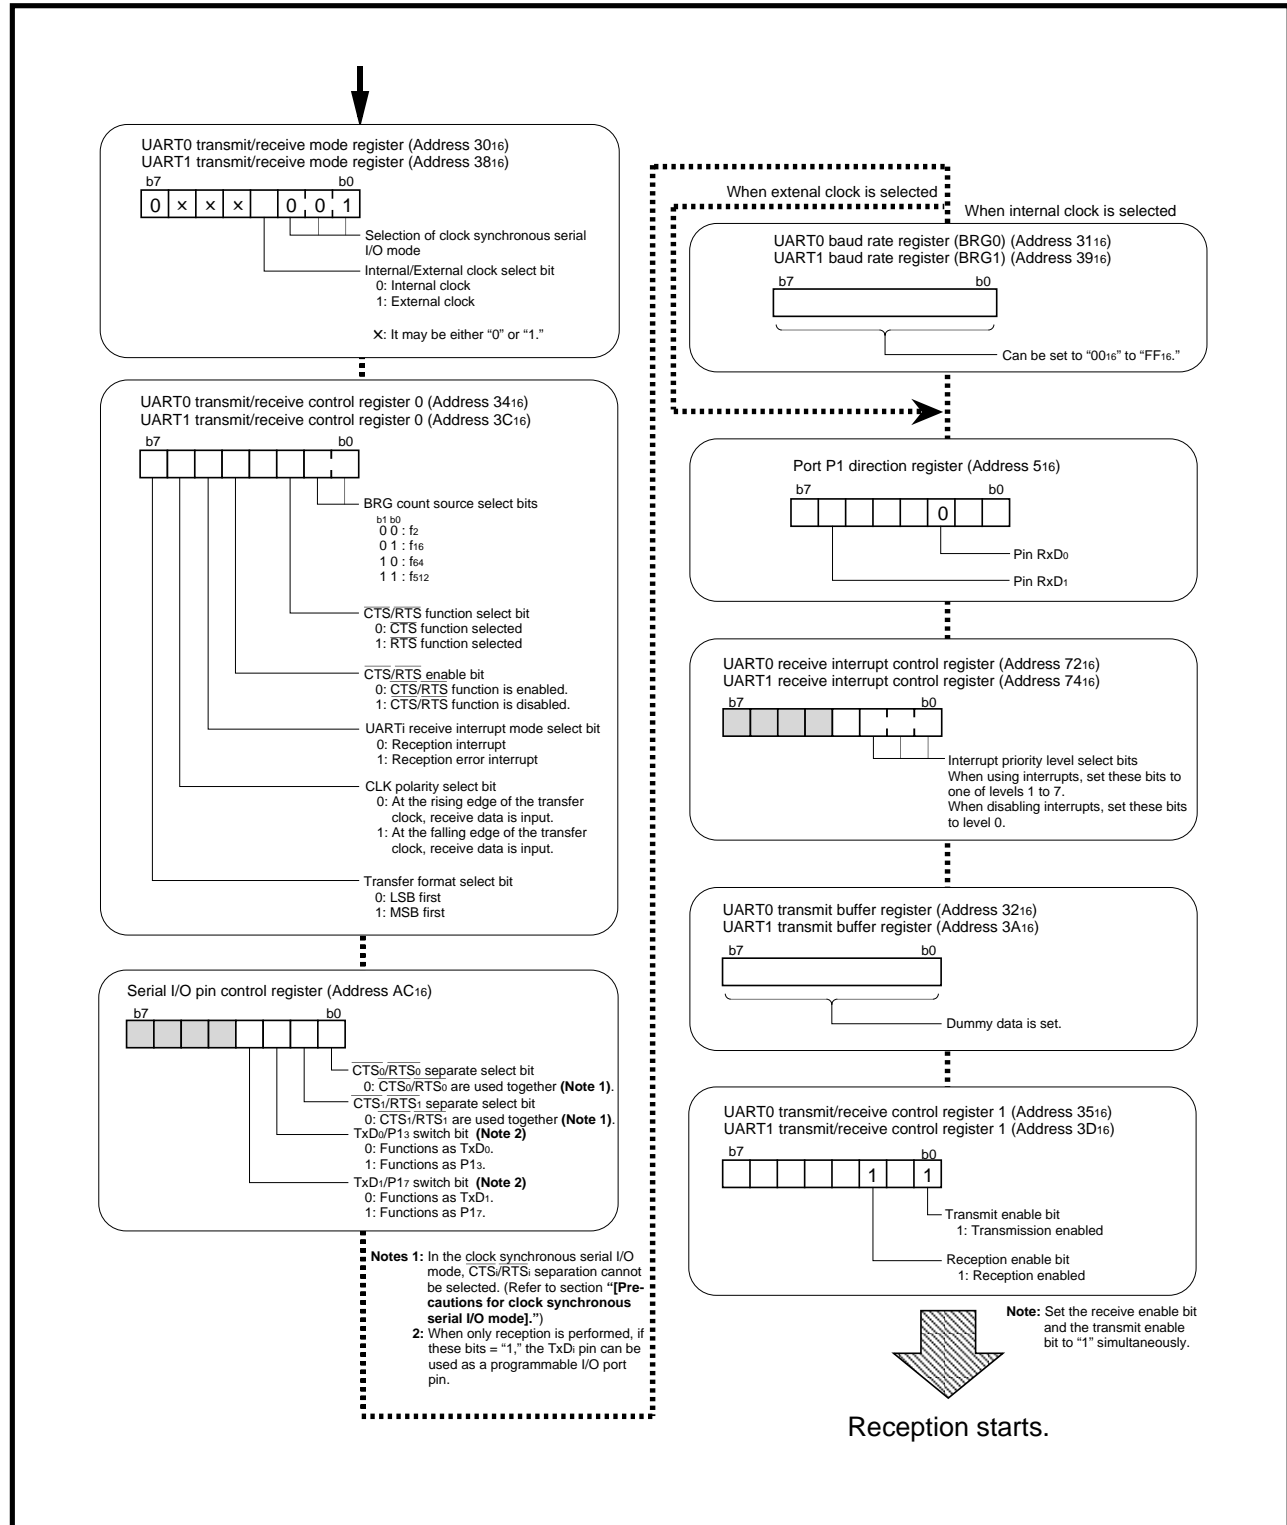

Fig. 11.3.8 Initial setting example for relevant registers when receiving
Figure 11.3.8 shows an initial setting example for relevant registers when receiving. Reception is started when all of the following conditions (① to ③) have been satisfied. When an external clock is selected, satisfy conditions ① to ③ with the following preconditions satisfied.